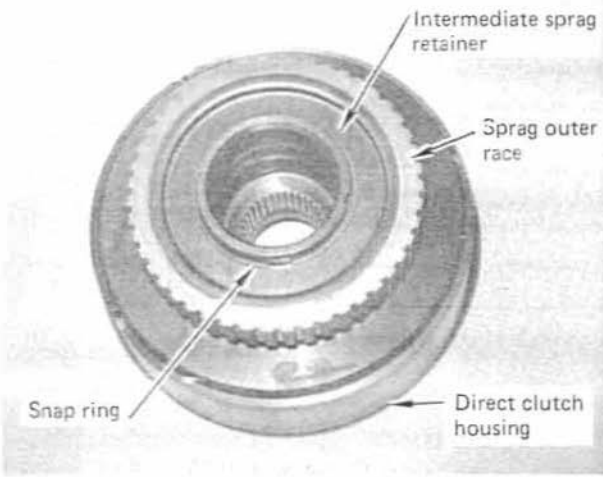
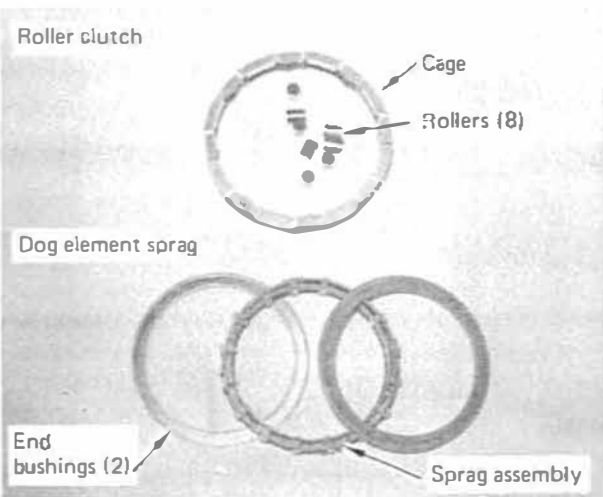

FIGURE 23
FIGURE 24
STEP 3: Turn the housing over and remove the intermediate overrunning clutch retainer and the intermediate overrunning clutch. (See Fig. 23) There are two types: The more common dog element sprag with end bushings or the late model eight element roller clutch. (See Fig. 24) The rollers may be removed from the cage for cleaning so they don't get lost. Do not remove elements from the dog-type clutch. The direct clutch assembly is now ready to clean.